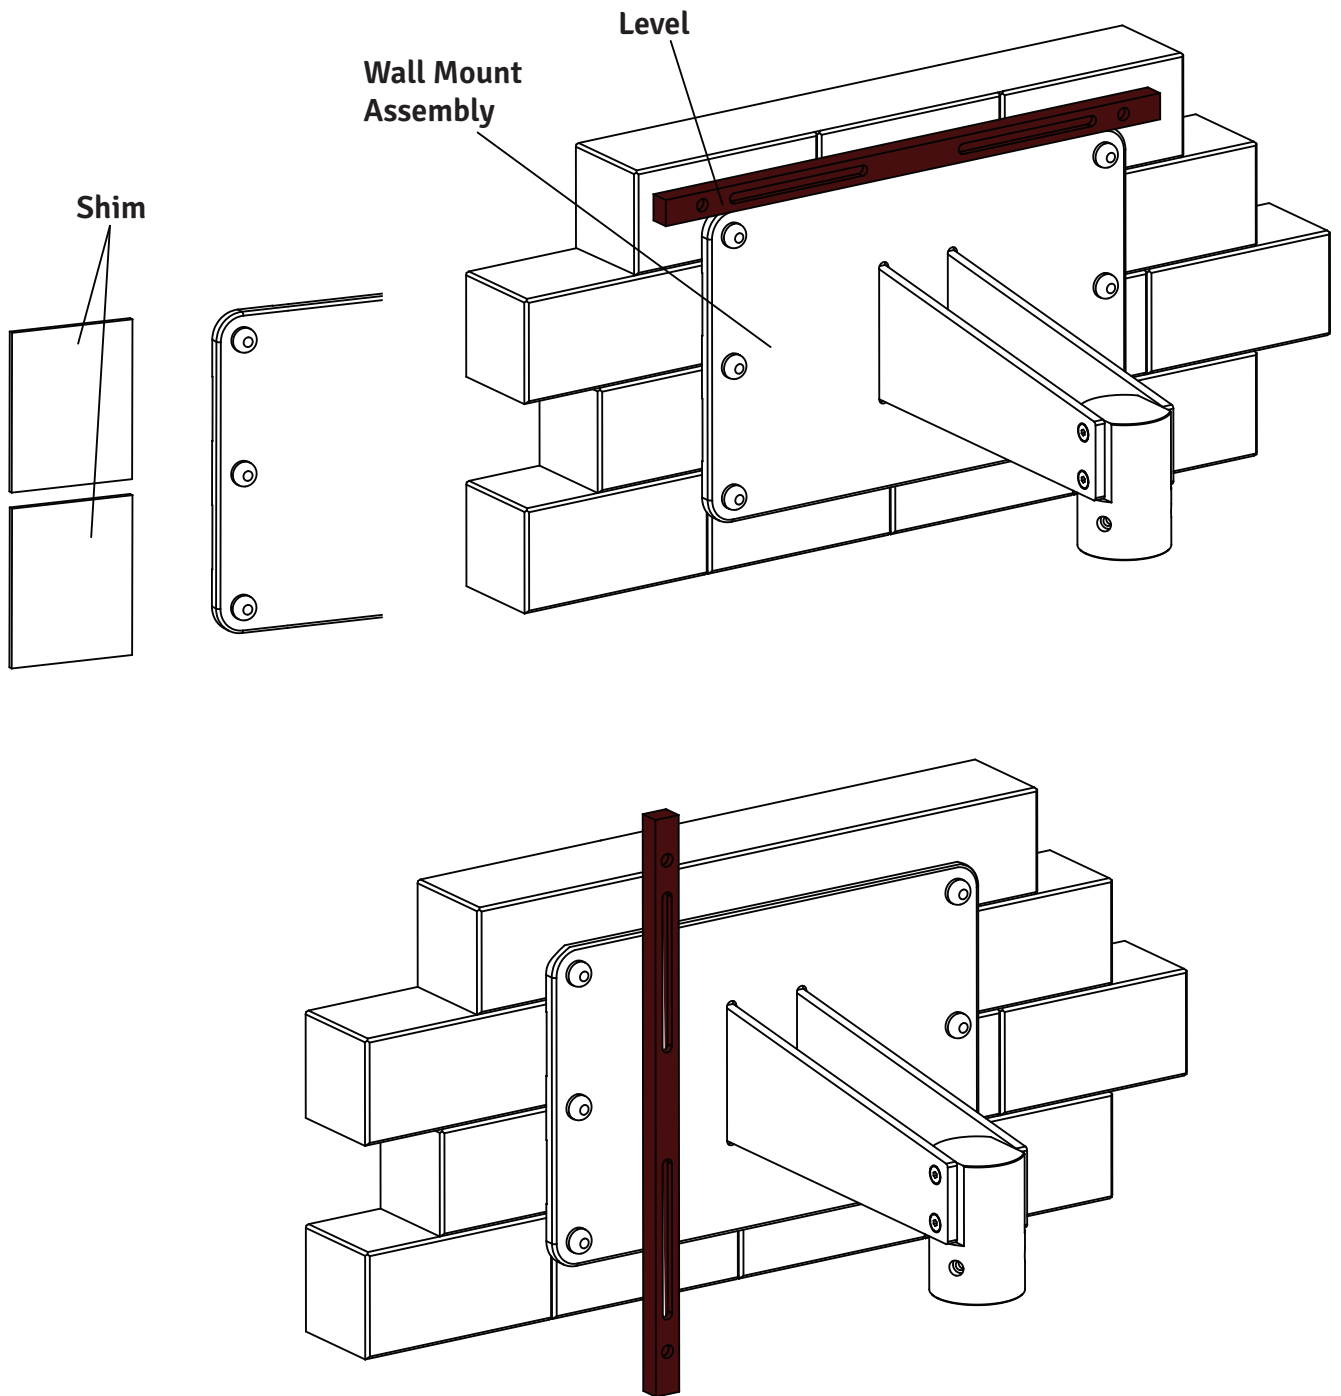

Figure-30
2. Place a level across the top of the back plate to check the horizontal leveling. See figure-30.
3. Use a 17mm Socket & Ratchet arrangement to slightly loosen the Six (6) toggle bolts in the corners of the back plate.
5. Place a level vertically along the face of the back plate, on both sides, to ensure it is perpendicular to the floor. See figure-30.
7. Check the other side and insert shims as needed and then tighten the toggle bolts. See figure-30.